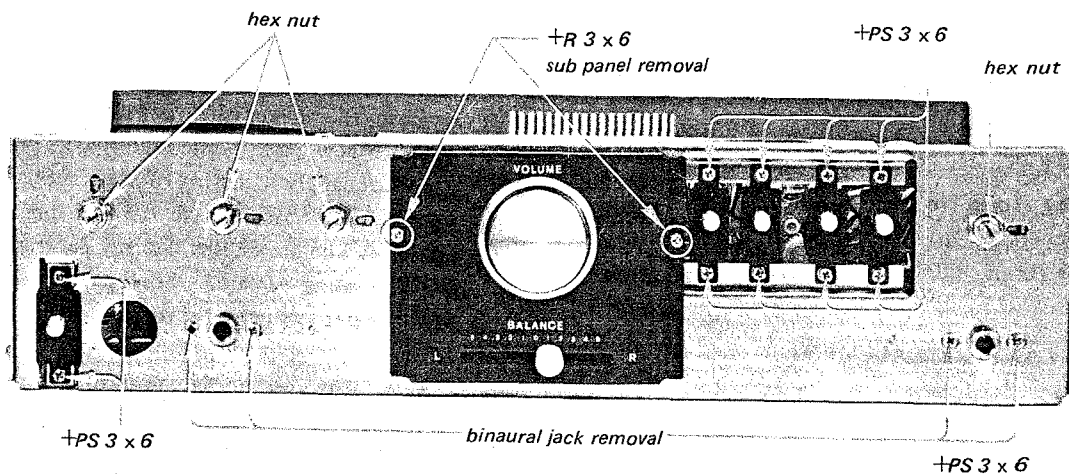

Fig. 2-5 Front sub panel, switch, control and binaural jack replacement
3. Remove the two self-tapping screws (+R 3 X 6) securing the panel to the chassis. See Fig.2-5.
First, remove the wooden case, front panel and front sub-panel as described in Procedures 2-3, 2-4 and 2-5. Then perform the following procedures while referring to Fig.2-5.